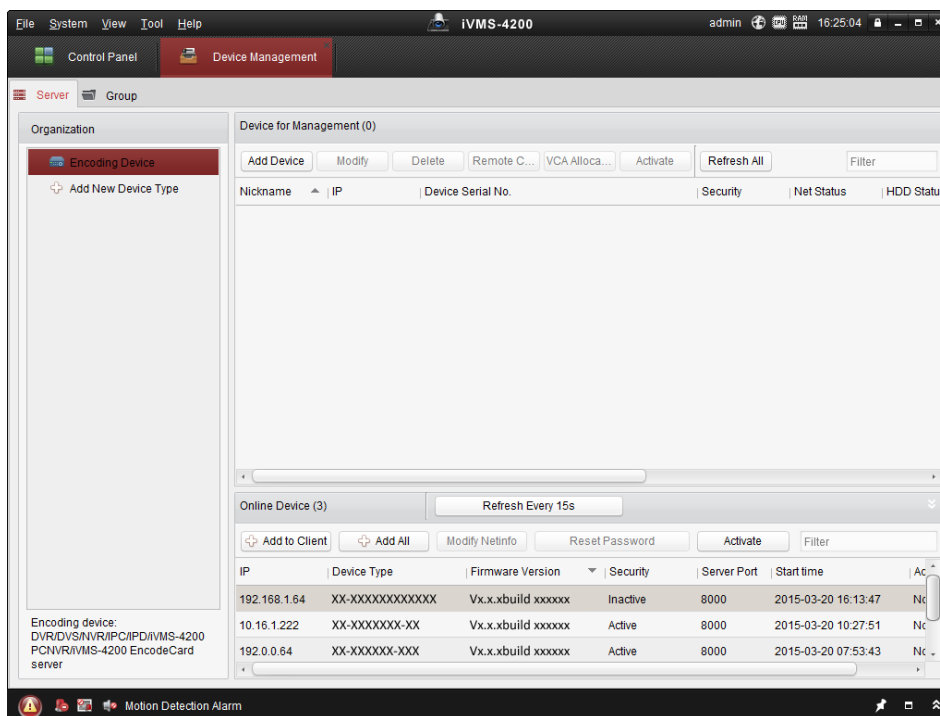

Figure 2-7 Device Management Interface
2. Click **Device Management** to enter the Device Management interface, as shown in Figure 2-7.